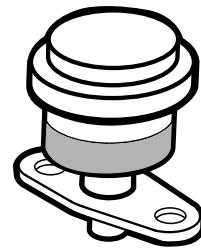

Figure 39
Service the primary air-cleaner filter only when the service indicator (Figure 39) requires it. Changing the air filter before it is necessary only increases the chance of dirt entering the engine when the filter is removed.
1. Check the filter blockage indicator. If the indicator is red, replace the air filter (Figure 39).